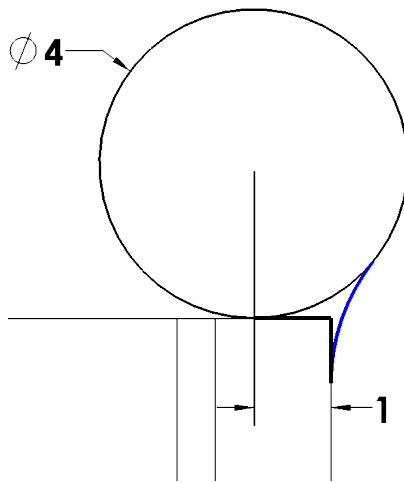

Fig. 6
Step 12. Click **Line**  (L) on the Sketch toolbar.
Step 13. Start sketch from tangent point on top edge of body across to inside edge and down along edge. Autotransition to Tangent Arc tool and sketch arc up to circle, **Fig. 6**. To autotransition to arc, after sketching endpoint of line, move cursor away and back. The preview shows a tangent arc. Click to place the arc. Double click to terminate the line chain.